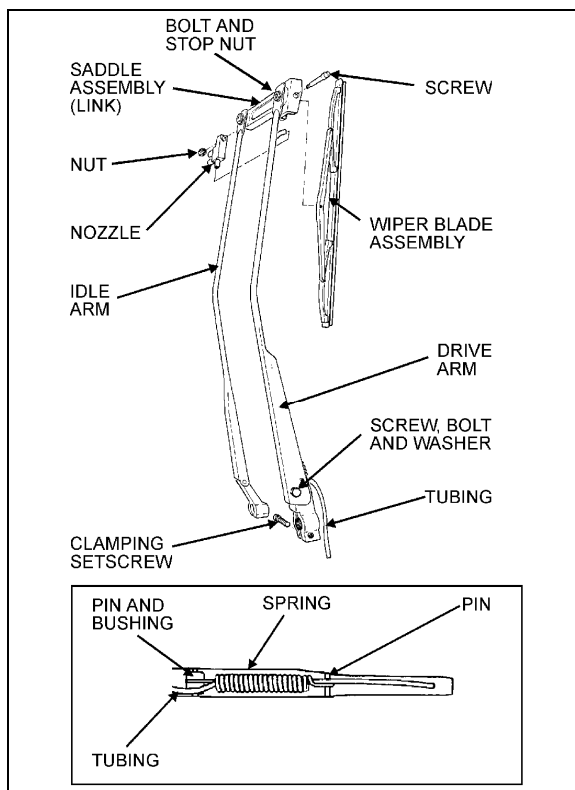

FIGURE 34: LOWER WINDSHIELD WIPER
1. Remove the cap nuts from the wiper arm pivot shafts (Fig. 34 and 35);
2. Disconnect the windshield washer tubing at the base of the wiper arm (Fig 34 and 35);
3. Lower windshield wiper (Fig. 34): loosen the clamping set screw securing the drive arm to the knurled arm pivot shaft;
4. Remove the drive and idler arms (Fig. 34) or arm assembly (Fig. 35);
5. Relocate the drive arm (Fig. 34) or arm assembly (Fig. 35) on its knurled pivot shaft to obtain the desired position;
6. Lower windshield wiper (Fig. 34). Tighten the clamping set screw to secure the drive arm to the knurled shaft. Fit the idler arm onto the idler pivot shaft.
8. Connect the windshield washer tubing at the base of the wiper arm (Fig. 34 and 35);
9. Check the adjustment on a wet windshield (Fig. 34 and 35).
1. Remove the cap nuts from arms (Fig. 34 and 35);
2. Disconnect the windshield washer tubing at the base of the wiper arm (Fig. 34 and 35);
4. Lower windshield wiper (Fig. 34): loosen the clamping set screw on the base of the drive arm;
5. Remove the wiper arm assembly (Fig. 34 and 35).
1. Make sure the wiper motor is in the stop position. Lower windshield wiper (Fig. 34): position the wiper arm on the knurled drive shaft and idler arm on the pivot shaft. Upper windshield wiper (Fig. 35): position the wiper arm assembly on the knurled drive shaft;
4. Lower windshield wiper (Fig. 34): Tighten clamping nut onto the drive arm. Install cap nuts onto the arm shafts (Fig. 34 and 35);
5. Connect the windshield washer tubing at the base of the wiper arm (Fig. 34 and 35);
6. Check the adjustment on a wet windshield (Fig. 34 and 35).